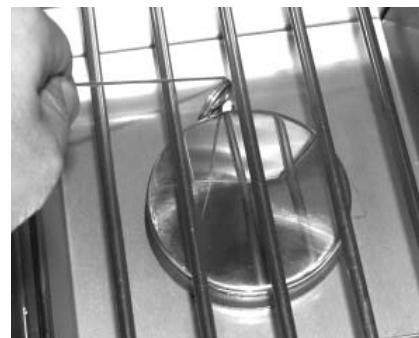

Fig. 17-2 - Manual lighting
2. Insert either a burning long-barrel butane lighter, a burning long-stem match, or a burning match held by a wire extension holder through the cooking grid opening to the burner (Fig. 17-2). Hold the flame against the edge of the burner.
4. If the burner does not light within five (5) seconds of turning the control knob, **immediately depress the knob and turn the valve to OFF**. WAIT FIVE (5) MINUTES before repeating steps 2 through 4 of the MANUAL LIGHTING instructions.